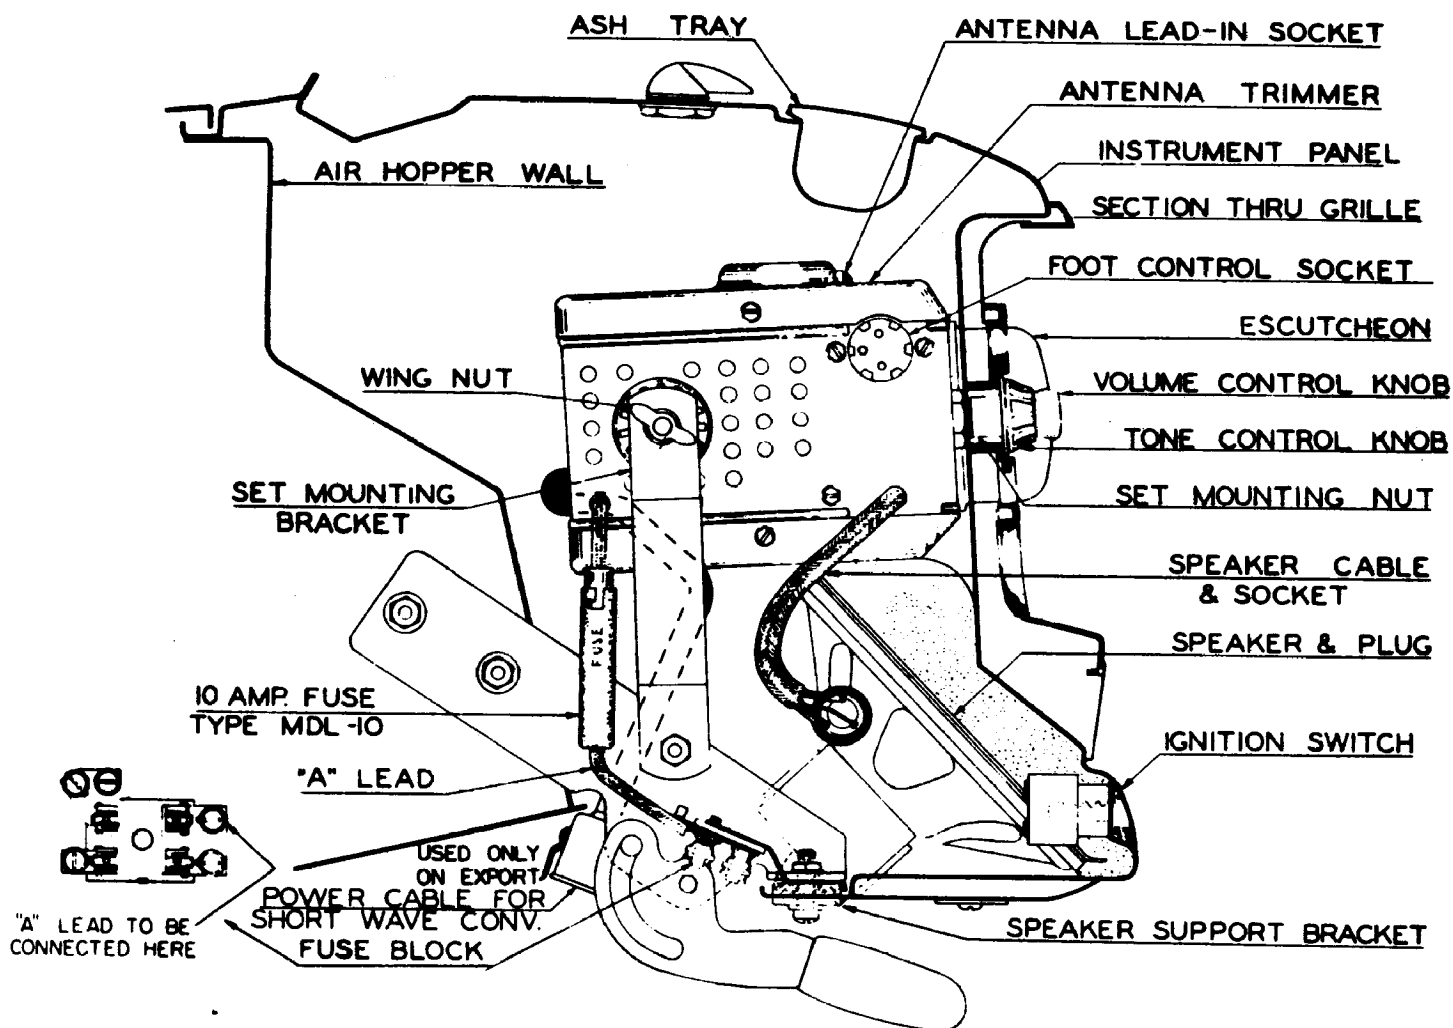

Fig. 2. Mounting Details and Connections
9. Attach set mounting bracket by fastening one end to the side of the receiver case with the wing nut. Fasten the other end of the radio mounting bracket to the cowl ventilator handle bracket with $\frac{1}{4}$ " x $\frac{3}{4}$ " M.S. flat washer, and nut. (Fig. 2.)
10. Remove cardboard protector from speaker unit and fasten speaker and bracket assembly in place with two $\frac{1}{4}$ " x $\frac{3}{4}$ " M.S. flat washers, two lock washers, and two nuts provided. (Fig. 2.) Plug the speaker cable into the socket provided on the speaker frame.
14. Fasten the "A" lead to the unfused terminal of the fuse block as indicated in figure 2.
IMPORTANT: Turn the receiver on and allow it to operate for approximately fifteen minutes in order for it to reach normal operating temperature. Tune in a weak station near 1200 Kc. Remove the ash tray from the instrument panel of the car. Reach through the ash tray opening with a small screw driver and adjust the antenna trimmer, located on the top of the receiver, for maximum volume. (Fig. 2.) Replace the ash tray.